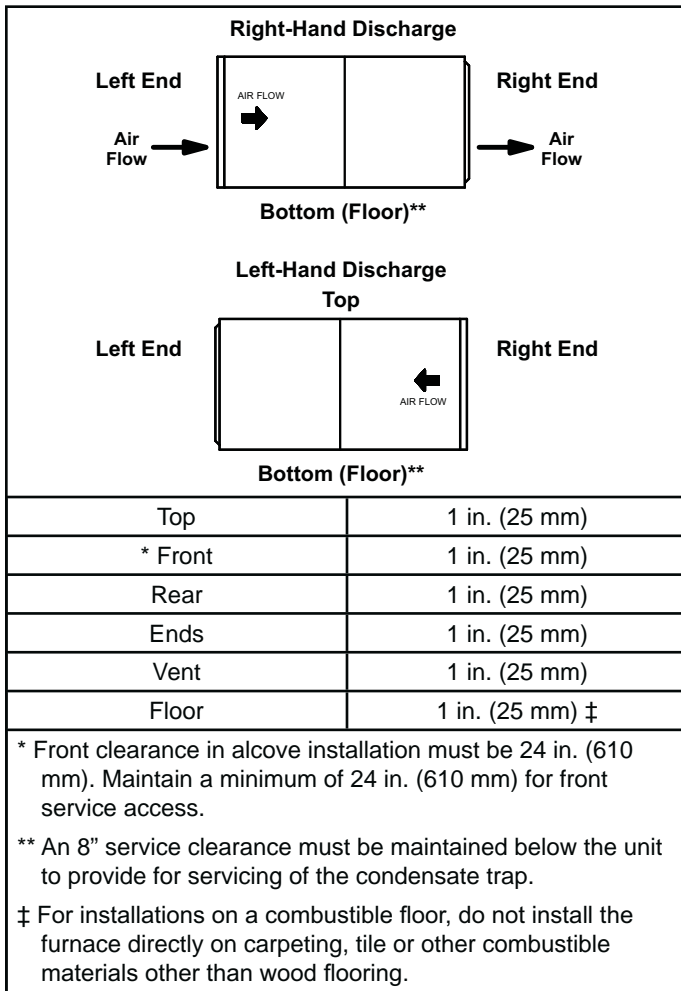

Figure 11. Installation Clearances Horizontal Applications
This furnace is CSA International certified for installation clearances to combustibles material as listed on the unit nameplate and in the table in Figure 5 or Figure 11. Accessibility and service clearances must take precedence over fire protection clearances.
Refer to Figure 11 for clearances in horizontal applications.
1. Select location for unit keeping in mind service and other necessary clearances. See Figure 11.